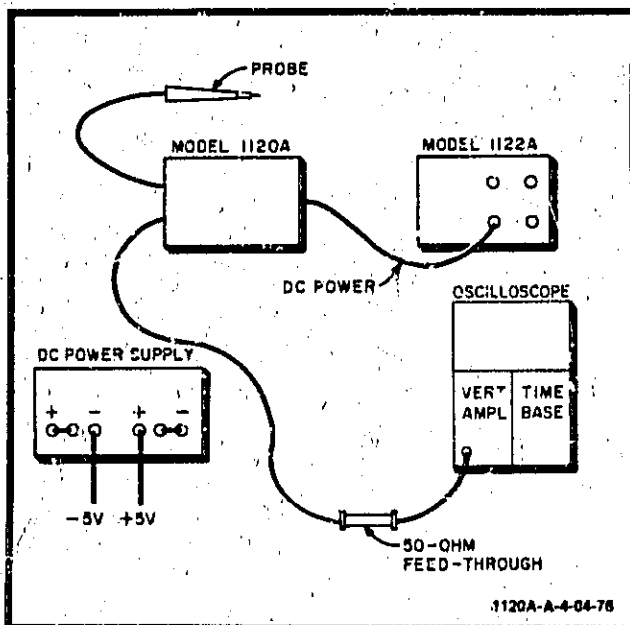

Figure 10. Offset Operation Test Setup
26. Connect the equipment as shown in figure 10 for Offset Operation check.